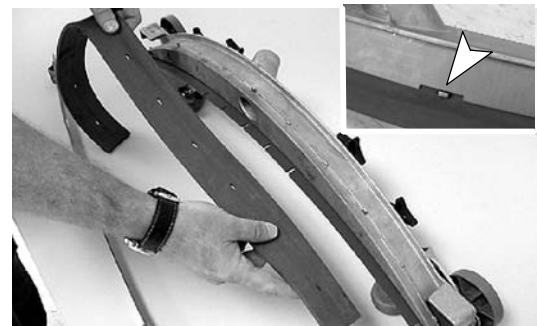

FIG. 52
3. Rotate the rear blade to a new wiping edge and reinstall the band. Make sure the notched edge of the band is facing downward (Figure 52).